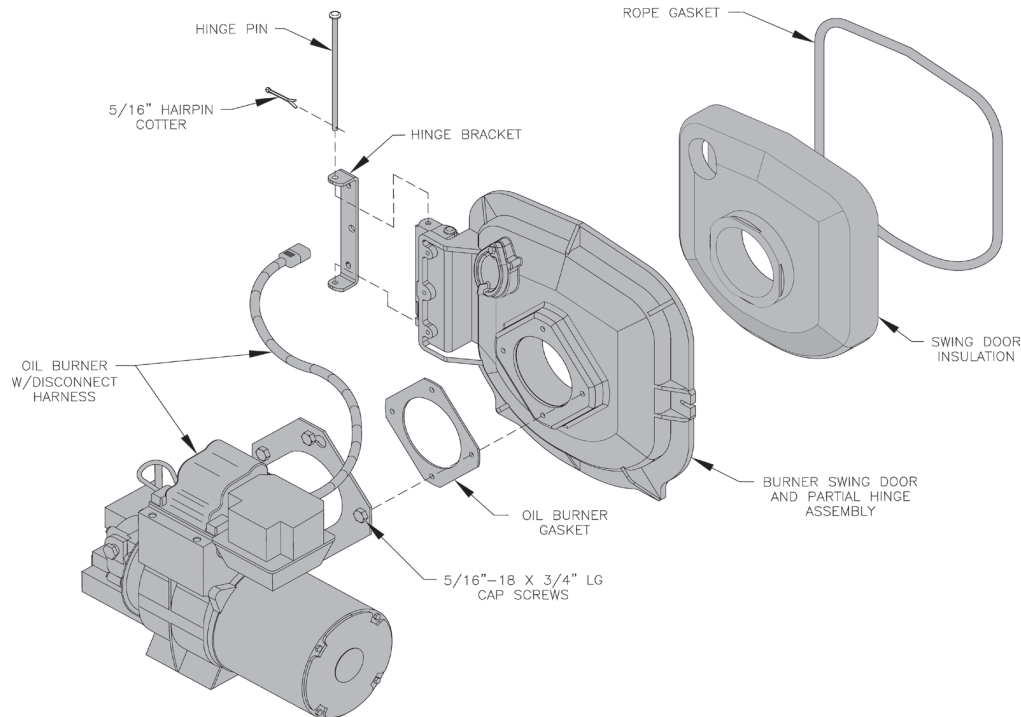

Figure 7: Oil Burner Installation (Beckett Burner Shown)
1. Remove burner swing door and hinge assembly. Remove one (1) 5/16”-18 flange nut and washer from right side latching stud and one (1) 5/16”- 18 x 3½” cap screw on left side used for securing burner swing door to the boiler section. Swing door open and remove 5/16” hairpin cotter from rear hinge pin (see Figure 7). While holding swing door remove hinge pin and set door aside. Remove two (2) 5/16”-18 x ¾” long cap screws securing the hinge bracket to the boiler section.
(See Figure 7).